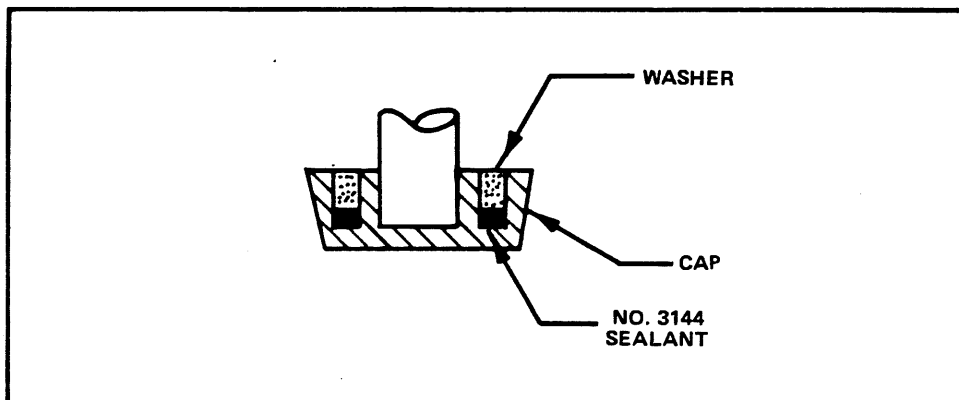

Figure 10. Detail of Fuseholder Caps.
STEP 15. Install Fuseholder Caps (see Figure 10)
- (1) 1502 TPN 210-1245-00, MPL Item 2-25.
- (2) 1503 TPN 210-1245-00, MPL Item 2-27.